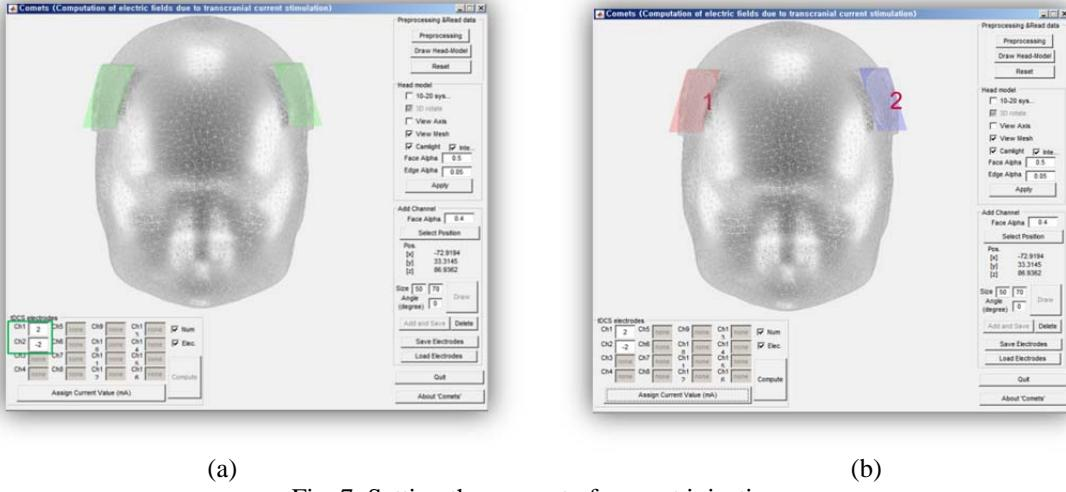

Fig. 7. Setting the amount of current injection.
- In the green box of Fig. 7(a), the amount of current injection should be described. Textbox for *Ch1* and *Ch2* are activated. Two values should have the identical absolute value but should have opposite signs.
- After typing the amount of current, press *Assign Current Value* button. Then, you can see the numbered electrodes (Fig. 7(b)).